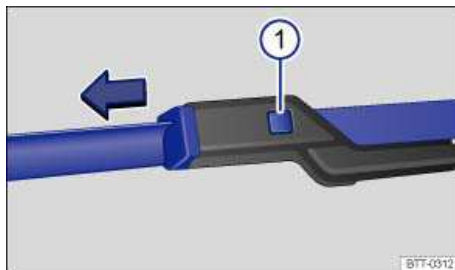

Fig. 145 Changing the windshield wiper blades.
- Press and hold the release button ⇒ fig. 145 \(1\).